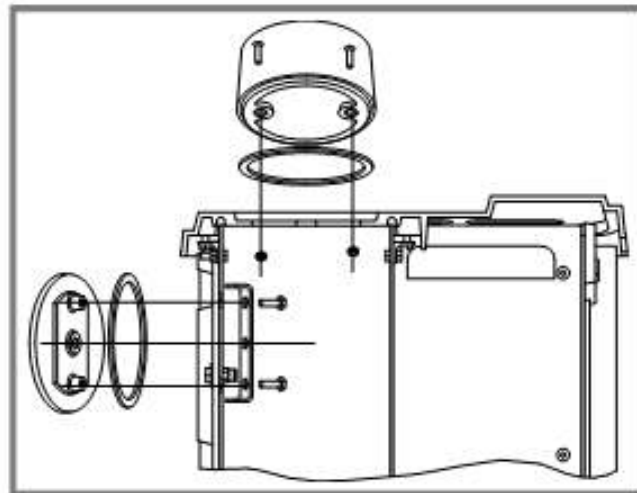

Figure 5 - Smoke exit on the top
- ✦ Fit the blanking plate and the support on the back wall, ensuring there is a good seal. (fig. 5).